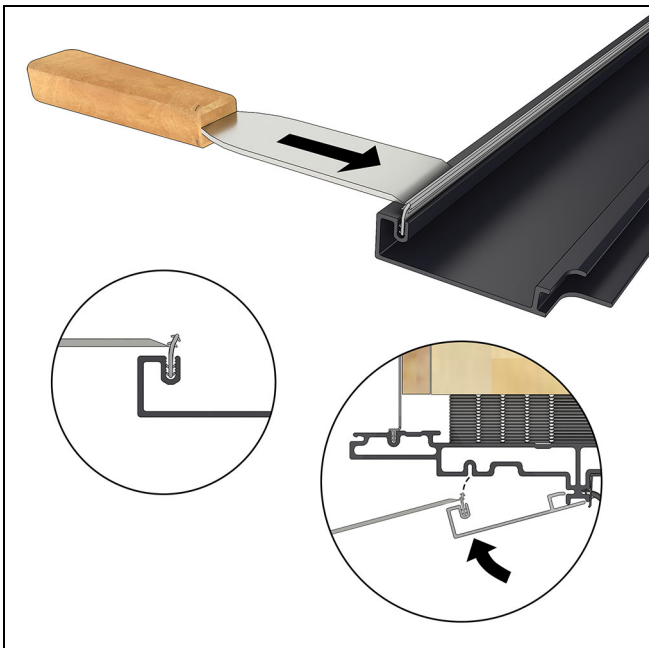
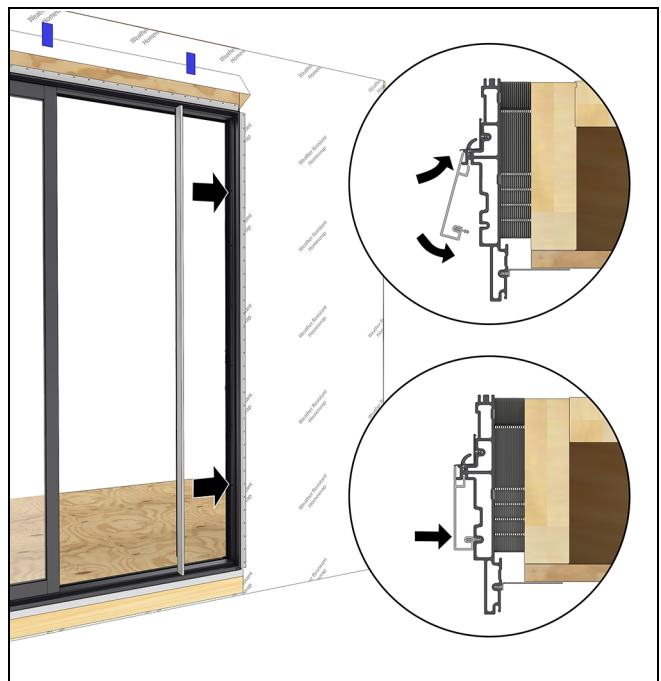

Figure 111 Use a flat bar to guide the flexible bar into the kerf.
Figure 114
13. Install the exterior covers. Start at the head jamb, then sill, and then jambs. Push hooked edge of the cover into the frame then rotate to engage the barbed end into the side of the frame. If necessary, seat the cover with a rubber mallet and block of wood, taking care to hit on the edge and not on the face of the cover to avoid damage. See Figure 111 through Figure 114.